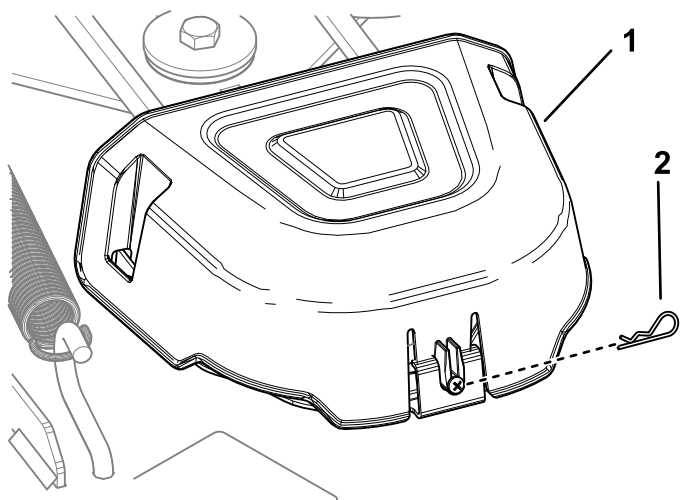

Figure 47
4. Remove the hairpin cotter and push in the tab on the cover to remove the pulley covers (Figure 47).